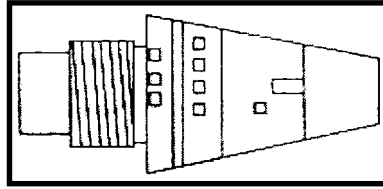

Figure 7-15. M776 MTSQ fuze.
- a. **M776 MTSQ Fuze** (Figure 7-15).
- (1) Functions: Air burst or impact.
- (2) Settings: Six to 52 seconds.
- (3) Remarks: The fuze has a mechanical arming and timing device, expulsion charge, and safety wire or pin.